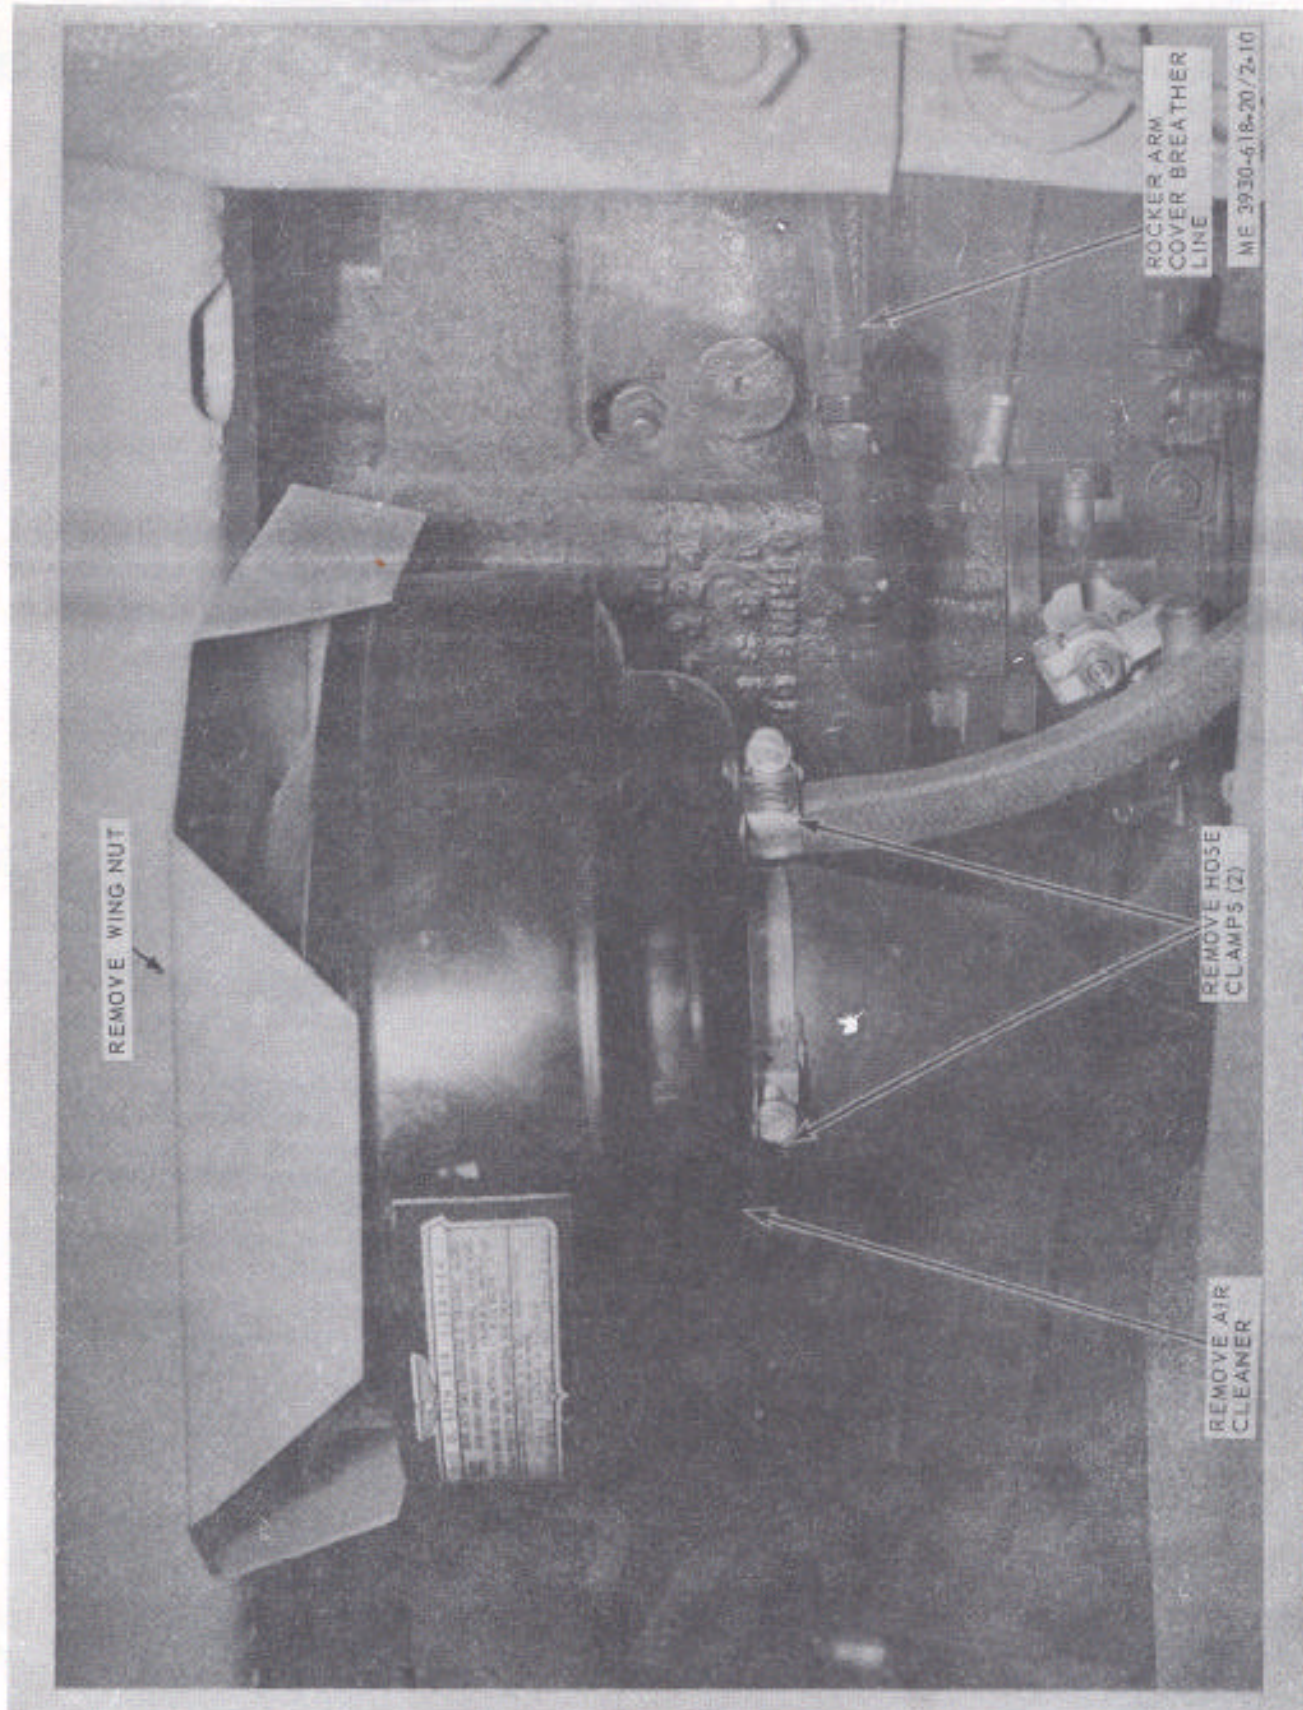

Figure 2-10 Carburetor air cleaner, installed view.
a. *Removal.* Loosen the hose clamp, unscrew the wingnut, and lift out the filter assembly (fig. 2-10).
(1) Pour out the old oil from the oil cup and scrape away accumulated dirt from the bottom of the oil cup.
(2) Clean the cover, oil cup, and base assembly inside and outside with SD.
(3) Refill the oil cup (capacity 1/2 pt) with engine oil of grade and weight presently used in the engine.
(1) Assemble the base assembly to the tubing and tighten the clamp. Make sure that there is an airtight connection.
(2) Insert the through-bolt through the mounting bracket as shown in figure 2-10 and tighten the wingnut.